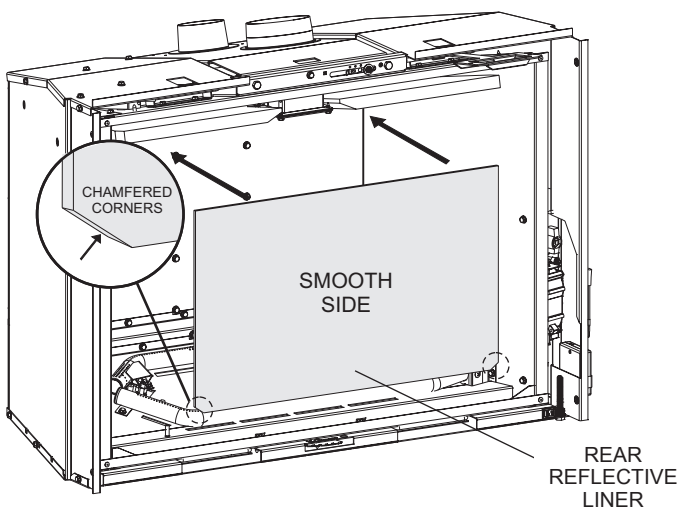

Figure 11
11. Center rear liner along rear wall with smooth side forward. Angle top of liner against rear wall with chamfered corners toward the bottom. **See Figure 11.**